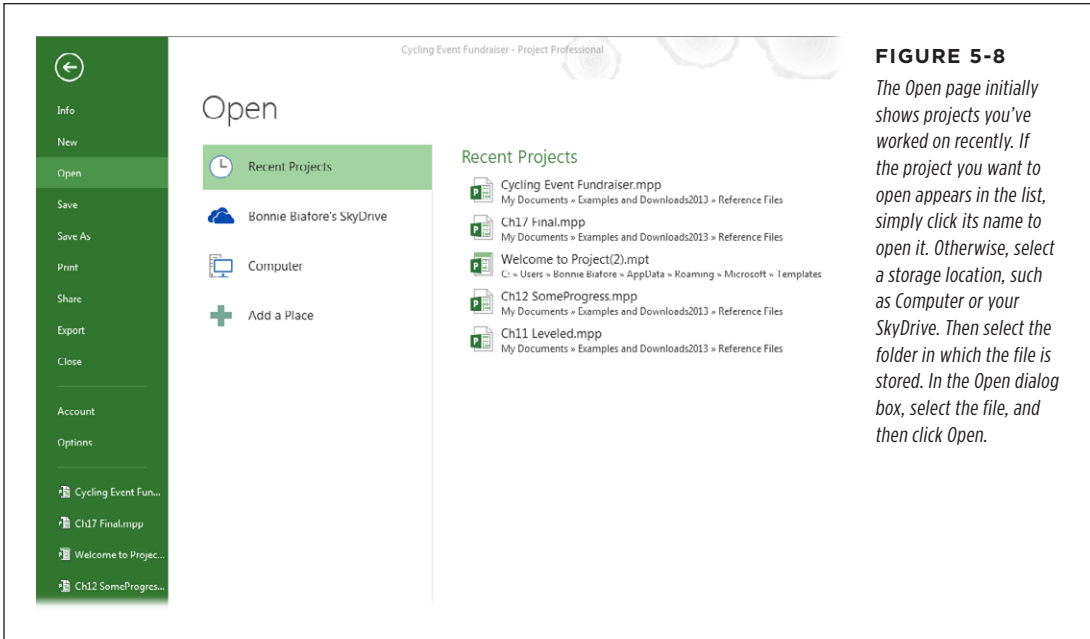

FIGURE 5-8
Backstage view's Open page appears and displays a list of recent projects, as shown in Figure 5-8.
- **Open recent projects.** When you choose File→Open, Backstage view’s Open page selects the Recent Projects category and displays several recent projects, as shown in Figure 5-8. Simply click a filename in this list to open it.
- **Display projects on Backstage view’s menu.** When you click the File tab, Backstage view opens with a menu on its left side. You can display projects on that menu (also shown in Figure 5-8) so you don’t have to choose Open in the menu. To set this shortcut up, choose File→Options. In the Project Options dialog box, choose Advanced. Scroll to the Display section, and then turn on the “Quickly access this number of Recent Projects” checkbox and type the number you want. Project displays that number of recent projects, starting with projects that are pinned to the Recent Projects list. Click a filename to open that Project file.